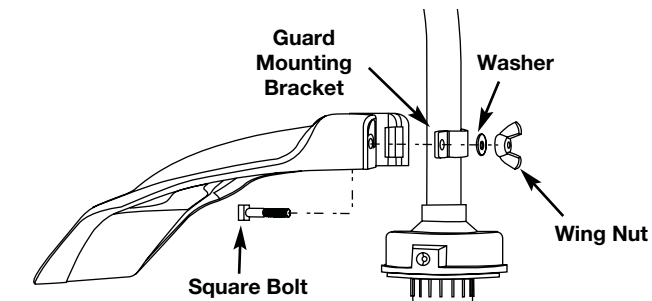

Fig. 18
- From inside the cutting attachment shield, push the square bolt through the hole until the threaded end protrudes through the guard mounting bracket (Fig. 18).